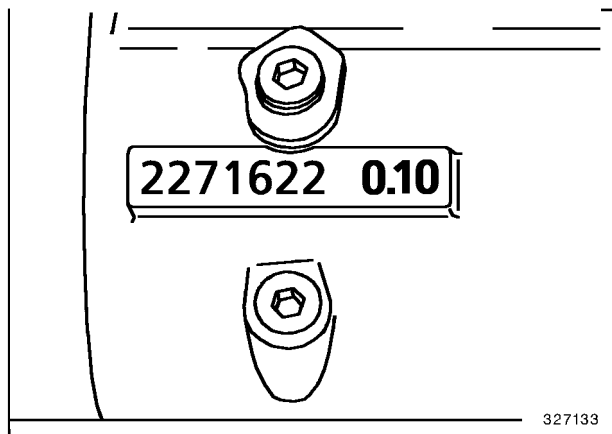
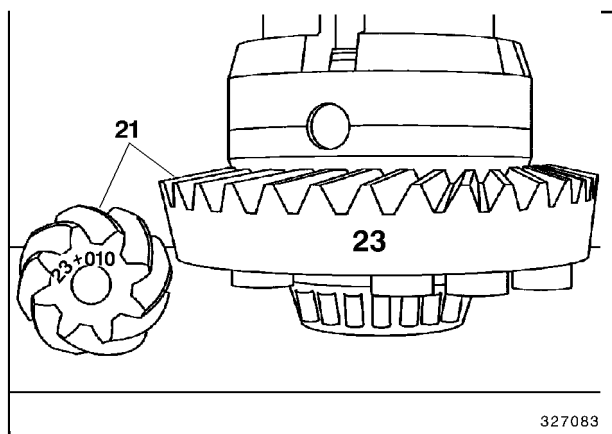

Fig. 20
Fig. 21
- a1 : For deviation to be read off housing (27), refer to Fig. 20.
- b : Measure width of tapered roller bearing (36).
- c1 : Read deviation (+ or -) off pinion shaft (21). Refer to Fig. 21.